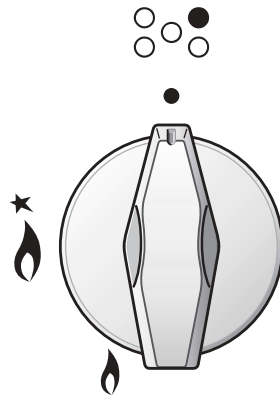

Fig. 12
Each hob burner is controlled by a separate gas tap operated by a control knob (fig. 12) which has 3 positions marked on the control panel, these are:
- 1) Lightly press and turn the knob anti-clockwise, and position the knob indicator to the symbol  printed on the control panel (fig. 12).